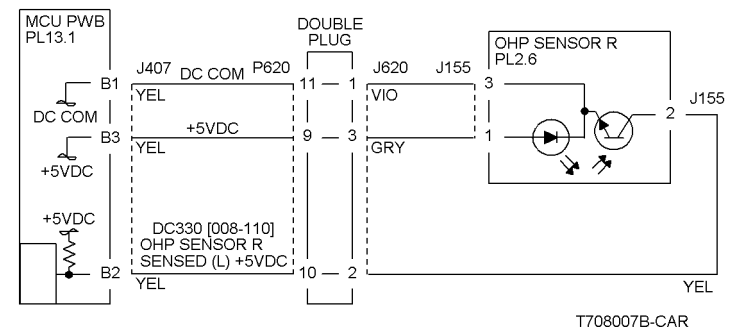

Figure 1 7-959 RAP Circuit Diagram - OHP Sensor R
Press **Stop**. Check the circuit of the OHP Sensor (Figure 1). Refer to the **OF 99-1** RAP for troubleshooting procedure.
- Ensure that the connectors shown in the circuit diagram (Figure 1) are securely connected and that the wires are not damaged.